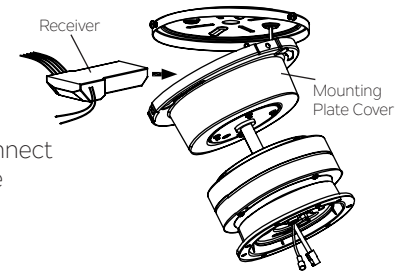

Fig. 8
**Step 1.** Place the receiver into the mounting plate cover and keep flat in opposition of ceiling. (Fig. 8)